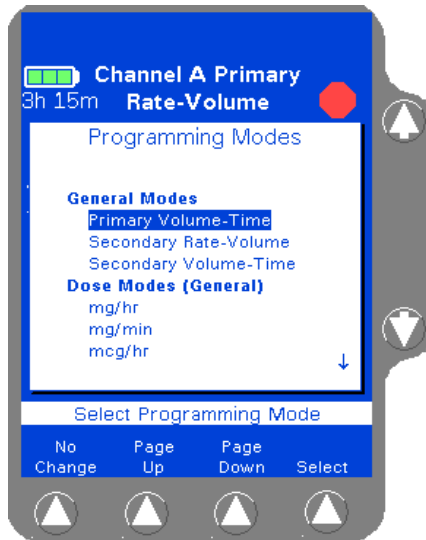

Figure 4-59 Programming Modes
- From the Programming screen, press the **Change Mode** soft key. The Programming Modes menu is displayed (Figure 4-59).